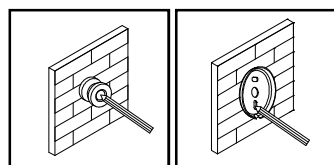

FIGURE 3
- Place mounting bracket at the desire location and mark hole. (FIGURE 3)